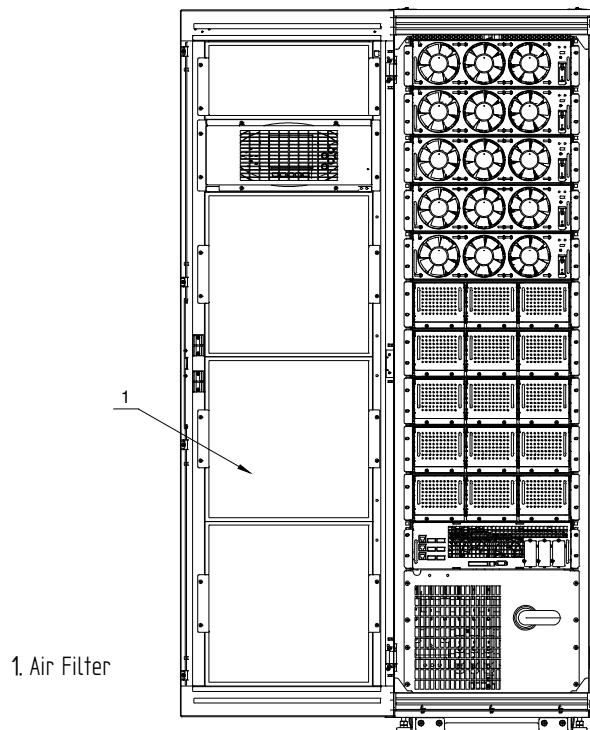

Fig. 8-2: Replacing Air Filters
1. Open the UPS front door and locate the filters on the back side of the front door (see Fig. 8-2).